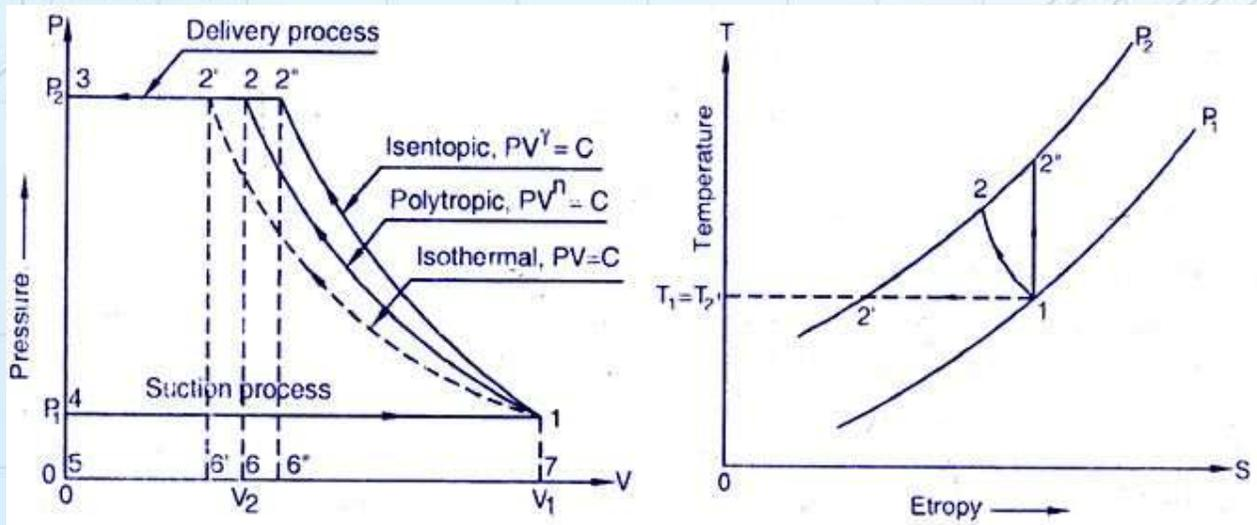

Fig.7.2 – P-V and T-S diagrams for a reciprocating air compressor neglecting clearance volume
Fig. 7.2 shows a theoretical P-V and T-S diagrams for a reciprocating air compressor neglecting clearance volume.
7.4.1 Case: (A) Work Done Equation For Polytropic Compression ($PV^n = C$)
- ▶ The net work done in the cycle is given by the area of the P-V diagram and is the work done on the air as shown in Fig. 7.2.